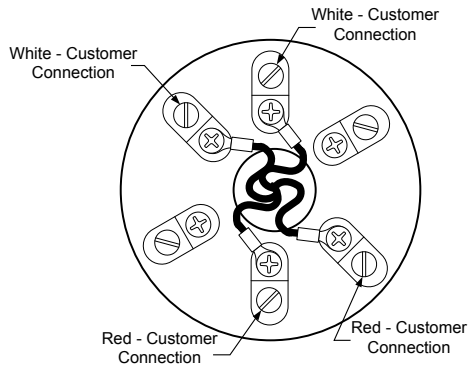

Fig. 7: RTD terminal block
5. Wire the RTD probe at the terminal block (Fig. 7). Install the probe wire spade lugs under the small screw heads. One color (typically white) is one side of the RTD and will go to the RTD **Out & +** connections on the G4 EX J8 connector. The other color (typically red) is the other side of the RTD and will go to **In & -** connections on J8.